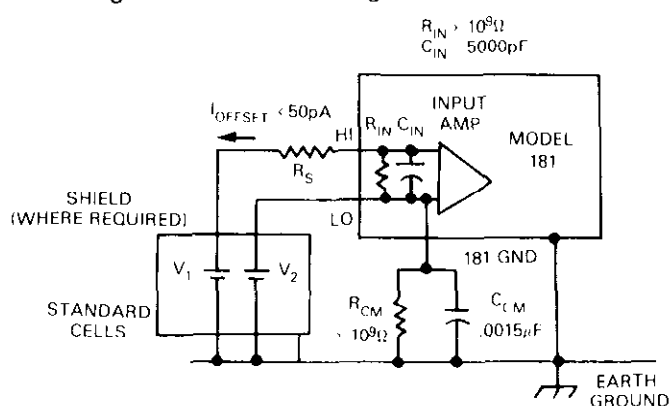

Figure 3-1. Standard Cell Comparison
The equivalent circuit for making standard cell comparisons is shown in Figure 3-1. V_1 and V_2 represent the two standard cells being compared, and are connected to the HI and LO mV INPUT terminals as shown. The common terminals of the two cells are normally connected to earth ground to prevent electrostatic pickup. Because of the high impedance nature of the measurement, it may be necessary to shield the two standard cells. This shield should also be connected to earth ground as shown in Figure 3-1.
The amount of current and charge drawn from the cells in Figure 3-1 is determined by the common-mode and normal-mode impedances. The common-mode impedance appears only across V_2 and is represented by the parallel combination of R_{CM} ($> 10^9\Omega$) and C_{CM} (0.0015 μ F.) Under typical laboratory conditions (less than 60% relative humidity), the value of R_{CM} is in the $10^{11}\Omega$ to $10^{12}\Omega$ range, and may generally be assumed to be infinite. The capacitance of the Model 1506 low-thermal cable makes up the larger portion of C_{CM} . If the input capacitance should have a detrimental effect on standard cell performance, its value may be essentially balanced out by connecting a 1500pF capacitor between the input HI terminal and earth ground. Since C_{CM} will rarely affect cell performance, this balancing technique is not usually necessary.
When on the mV ranges, the Model 181 will maintain its high input resistance characteristics ($> 10^9\Omega$) for all voltages up to 1V, even during range changes or when in overload. However, the input impedance drops substantially if the 1V limitation is exceeded. To avoid possible cell degradation under such conditions, it is recommended that a series resistance 1M Ω or greater be connected in series with one of the cells, as shown in Figure 3-1, where R_S is connected between V_1 and the input HI terminal. This safeguard will also protect the cells from degradation in case of improper connections. This resistance, R_S , can be shorted out after an on scale indication is observed, and the reading can then be made in the normal manner.
2. Connect the cells to the Model 181 as shown in Figure 3-1. Use the low-thermal cable and mV INPUT on the instrument. Include a 1M Ω resistor for R_S if the cells are to be protected from accidental loading during set-up.